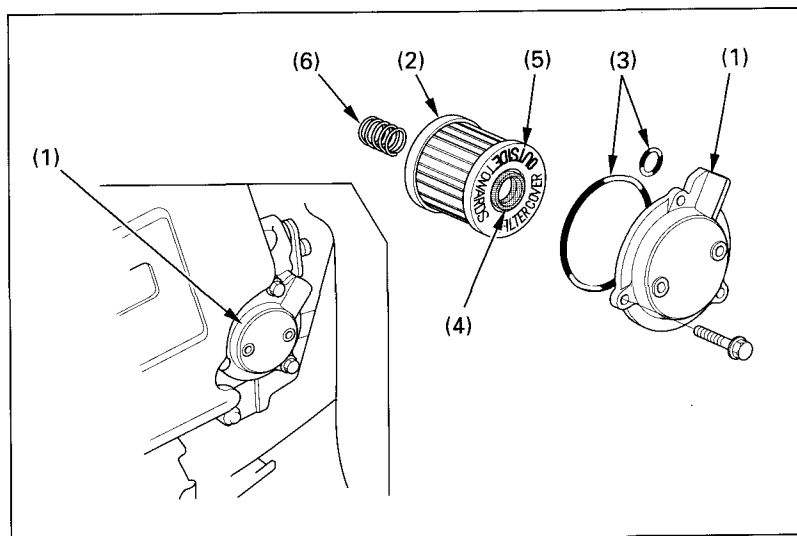

Fig. 4-13 (1) Oil filter cover
(1) Oil drain plug
3. Remove the oil filter cover (1) (Fig. 4-13) by removing the bolts. Let the remaining oil drain out. Discard the oil filter (2).
4. Check that the oil filter cover O-rings (3) are in good condition and then install a new oil filter. Use only the Honda genuine oil filter or a filter of equivalent quality specified for your model. Using the wrong Honda filter or a non-Honda filter which is not of equivalent quality may cause engine damage.